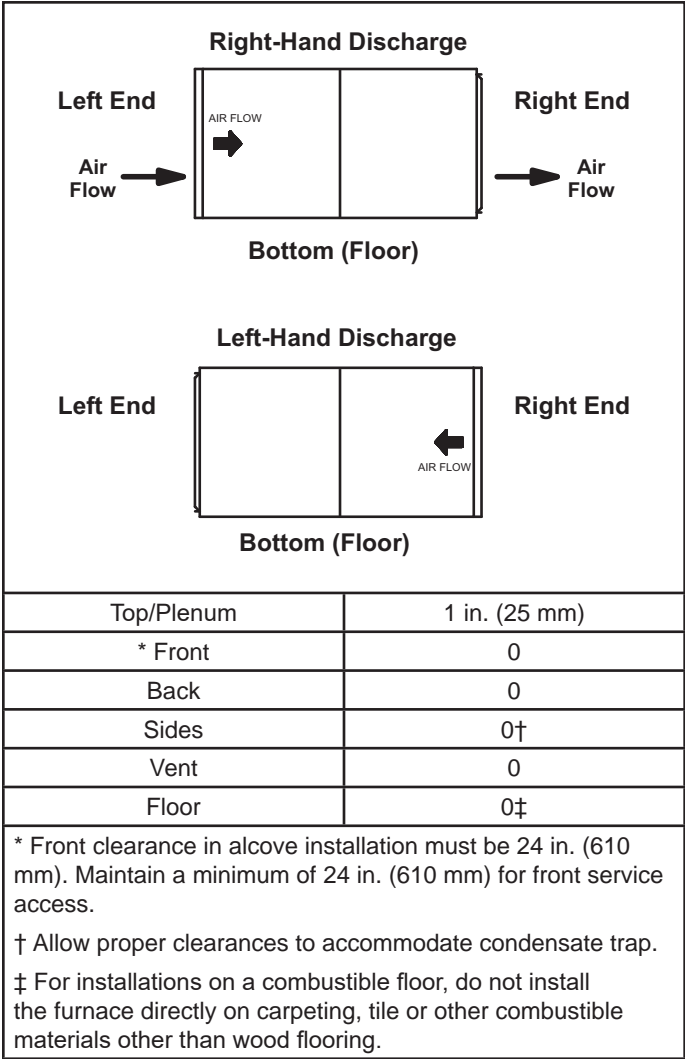

Figure 11. Installation Clearances
The furnace is designed for installation clearances to combustible material as listed on the unit nameplate and in the tables in Figure 5 and Figure 11. Installers should also consider the greater of either accessibility/service clearances or fire protection clearances.
Refer to Figure 11 for clearances in horizontal applications.
1. Select location for unit keeping in mind service and other necessary clearances. See Figure 11.